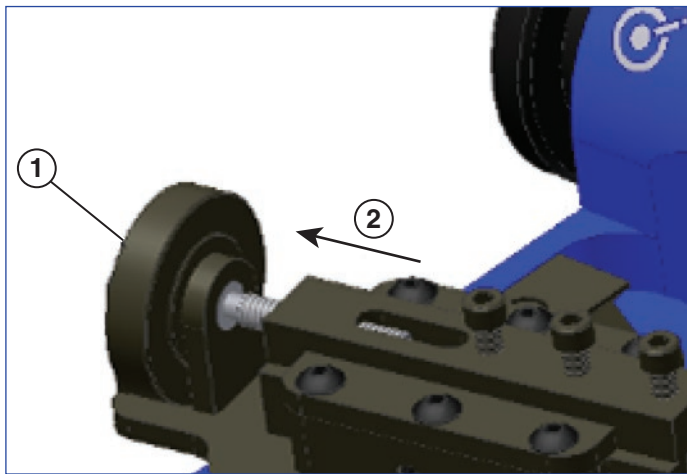

Figure 9
7. Turn the depth adjustment screw to position the tool block in the retracted position (*see Figure 9*).